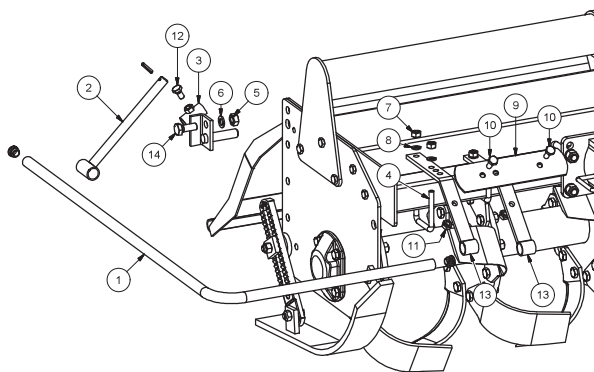

FIG. 13
1. Fit rear support (3, Fig. 13) with screw (14), nut (5) and washer (6).
2. Insert the support (2) securing it into position with the bolt (12).
3. Insert the longest side of the guard (1) into the rear sup-